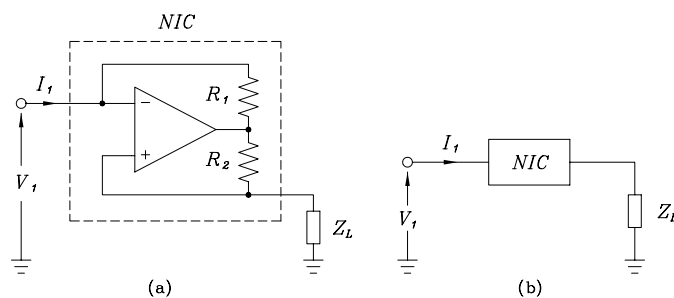
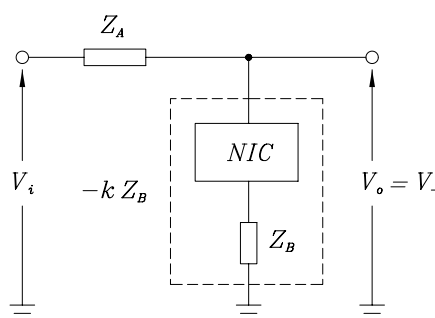

Figure 9: The negative immittance converter
Figure 10: Voltage divider with a negative immittance converter
- (33) For the circuit of Fig. 9 show that:
- (34) Set up the NIC of Fig. 9 with $R_1 = R_2 = 10\text{ k}\Omega$. Use it in the configuration of Fig. 10 with:
- (35) Again using the circuit of Fig. 10, show theoretically that if Z_A consists of R and C in series and Z_B consists of R and C in parallel,